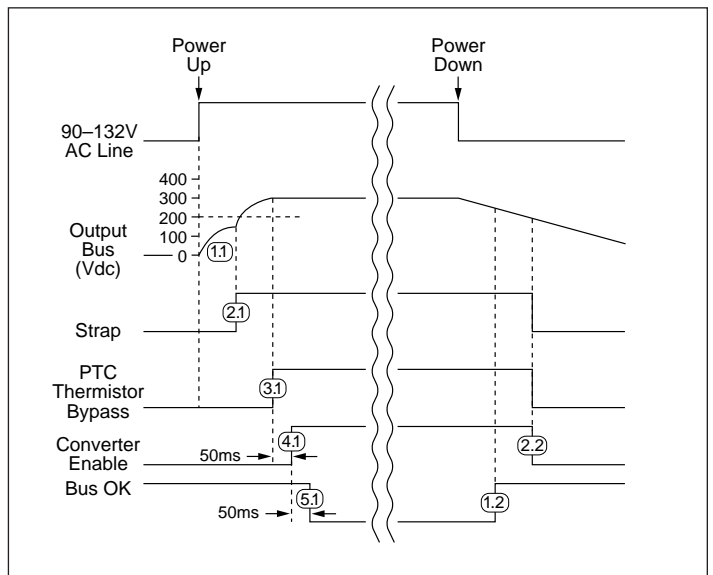

Figure 8—Timing diagram: power up/down sequence
#### Power-Up Sequence. (see Fig. 8):
**Power-Down Sequence. (see Fig. 8)** When input power is turned off or fails, the following sequence occurs as the bus voltage decays: